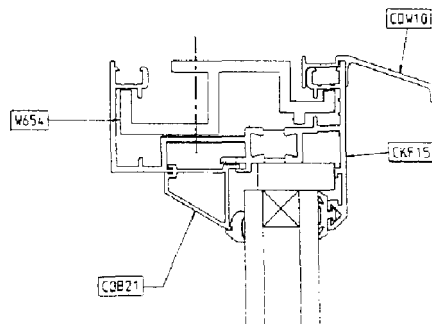

Fig. 21. FIXED LIGHT - HEAD
3.3 Fixed Lights (Figs. 21 & 22)